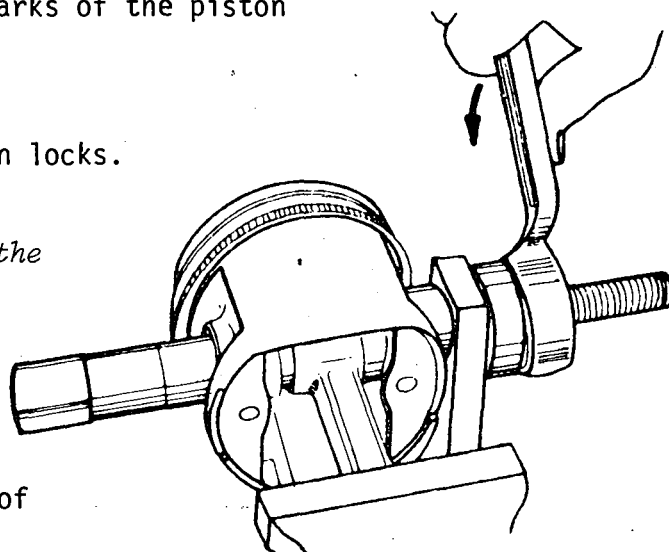

Fig. 1
- c) Install the gudgeon pin by slowly and progressively turning the gudgeon pin fitter (fig. 1) until it remains centred.